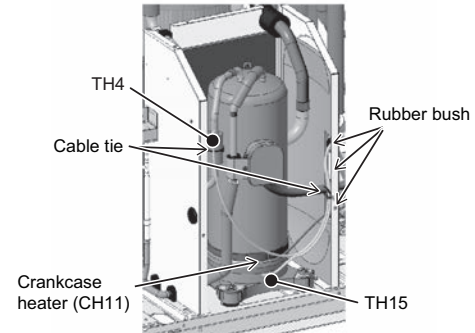

Figure 3
- (3) Cut the two cable ties holding TH4 and TH15, and remove the wiring from the rubber bush on the right compressor cover for TH4, TH15 and the crankcase heater (CH11). (2 cable ties, Figure 3.)